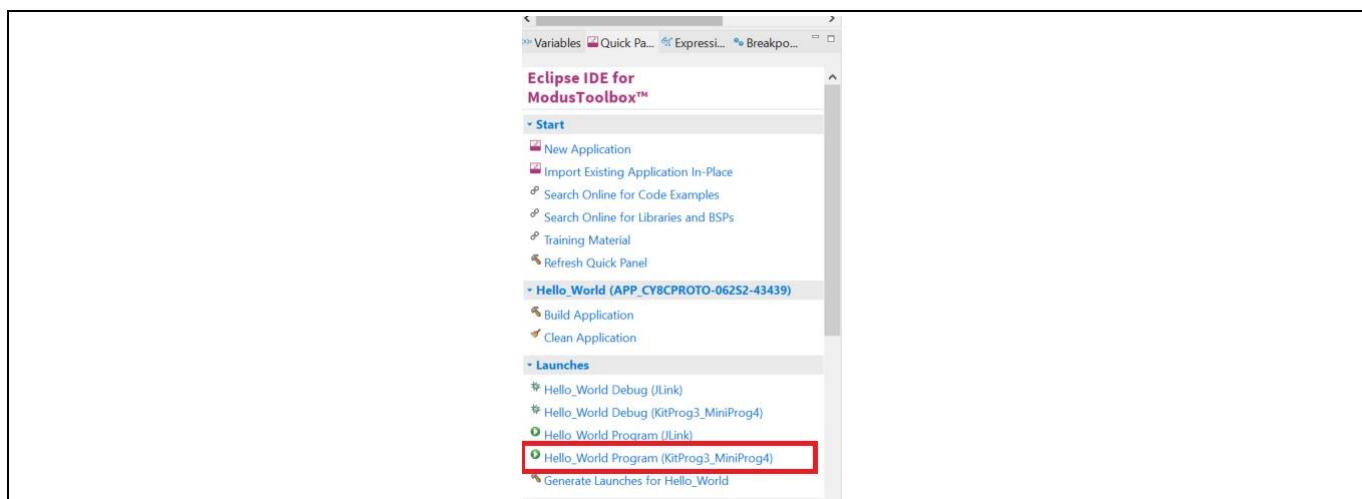

Figure 7 Programming in ModusToolbox™
4. To build and program a PSoC™ 6 MCU application, in the Project Explorer, select **<App_Name> project**. In the Quick Panel, scroll to the **Launches** section and click the **<App_Name> Program (KitProg3_Miniprogram4)** configuration as shown in Figure 7.